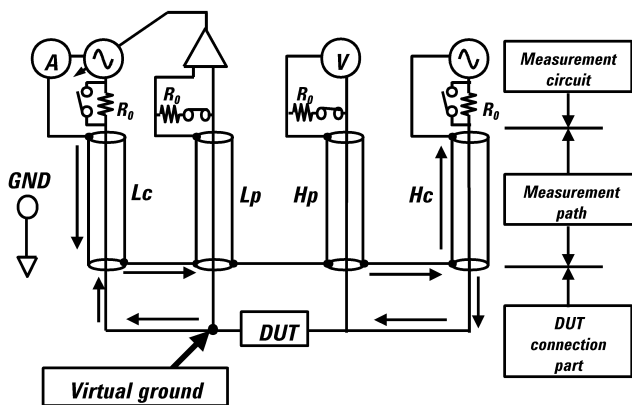

Figure 5. Cable terminated Auto-Balancing-Bridge method
1. The 4294A uses an innovative technology called the Cable-terminated Auto-Balancing-Bridge method. As shown in Figure 5, the measurement path is terminated by the characteristic impedance of the cable ($R_0 = 50 \text{ ohm}$) at high frequencies. This termination solves the standing wave problem at high frequencies so that the measurement signal can be precisely conveyed, independent of the frequency or the measurement path length. Hence, this technology provides highly accurate impedance measurements for higher